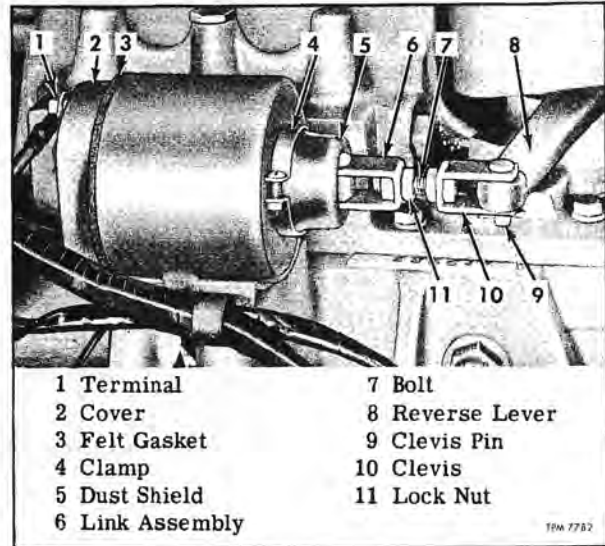

**Figure 6—Levers and Rods at Compartment Bulkhead (w/6V 71 Engine)**
Reverse solenoid and lever (fig. 6) move shaft (4) endwise to engage inner finger (12) with notch in fork (13) when shifting into reverse. Spring (11)
Key numbers in text refer to figure 6.
Levers and rods at engine compartment bulkhead which operate clutch and transmission are shown in figure 6. Transmission control bell crank (6) and clutch control bell crank (3) are installed on same shaft with a thrust washer above and below clutch control bell crank (3), and a spacer below transmission control bell crank (6).